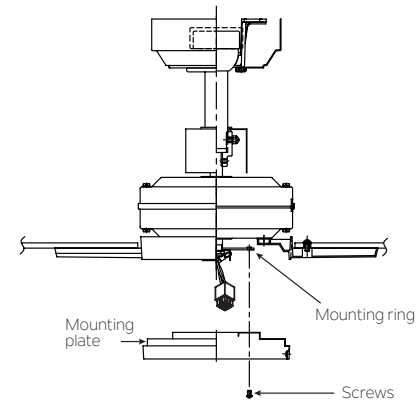

Fig. 17
Step 1. Loosen the two screws on the mounting ring attached to the motor shaft and “remove” and save the third screw. (Fig. 17)